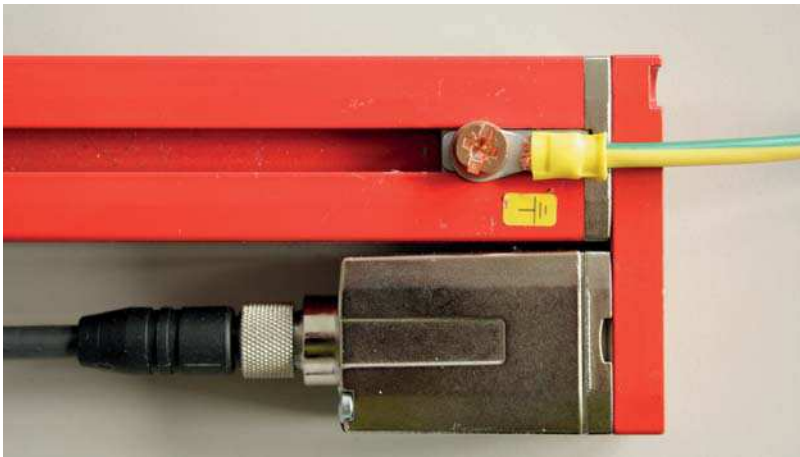

Figure 7.1: Connecting the ground potential to the light curtain
- ↪ Connect the transmitter housing **and** receiver housing of the light curtain to the protective conductor on the FE machine star point via the PE screw on the grounding slot nut (see figure 7.1).